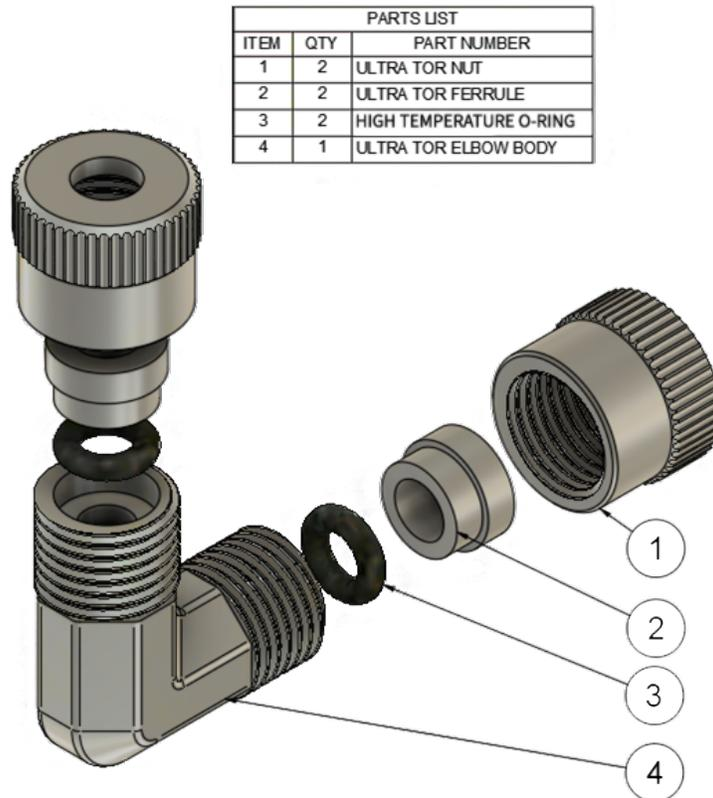

Figure 2: High Temperature O-Rings and Ultra Torr Elbow/Fittings
- Step 2** Remove the covers from the total sulfur furnace enclosure. (3)
- Step 3** Slide the quartz (high temperature glass) tube into the ceramic furnace. (5)
- Step 5** Ensure the high temperature O-ring and ferrule are present and oriented correctly, shown below (figure 2).